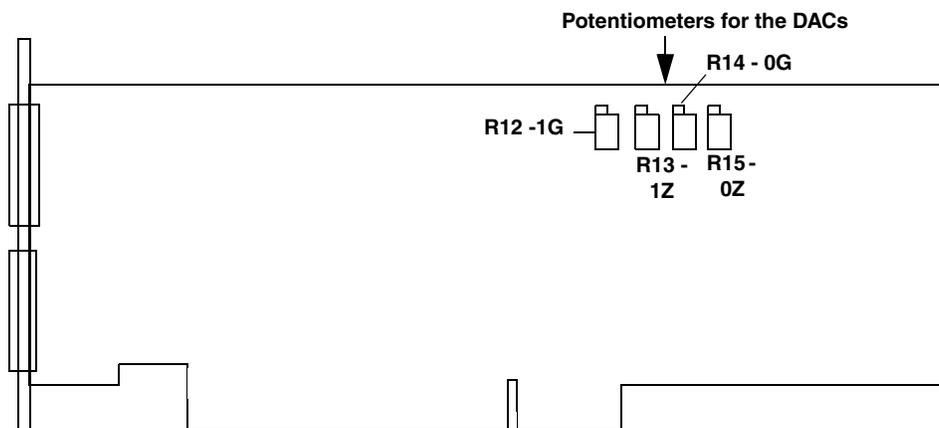

Figure 41: Location of Potentiometers R12 to R15 on the DT3034 Board
8. Physically adjust potentiometer R15 (labelled 0Z) on the DT3034 board until the display reads -9.3750 V (within 0.001 V). Figure 41 shows the location of this potentiometer.
10. Physically adjust potentiometer R14 (labelled 0G) on the DT3034 board until the display reads +9.3750 V (within 0.001 V). Figure 41 shows the location of this potentiometer.
13. Physically adjust potentiometer R13 (labelled 1Z) on the DT3034 board until the display reads -9.3750 V (within 0.001 V). Figure 41 shows the location of this potentiometer.
15. Physically adjust potentiometer R12 (labelled 1G) on the DT3034 board until the display reads +9.3750 V (within 0.001 V). Figure 41 shows the location of this potentiometer.